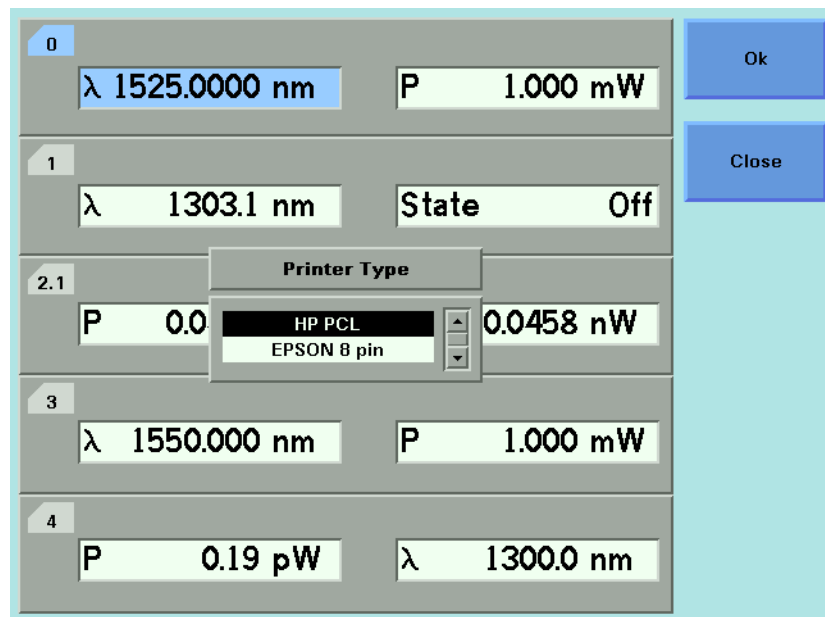

Figure 36 Selecting a Printer Type
- 2 Move to the *<Printer Type>* menu option and press *Enter*. You see a box, as shown in Figure 36 , displaying the following printer types: